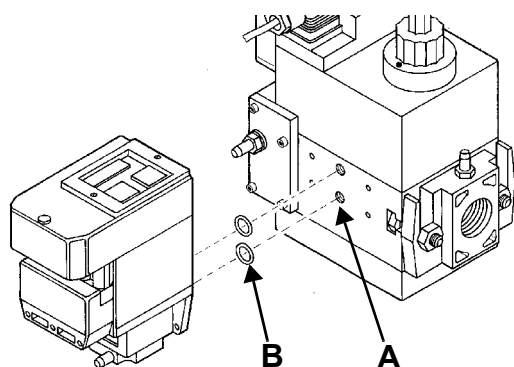
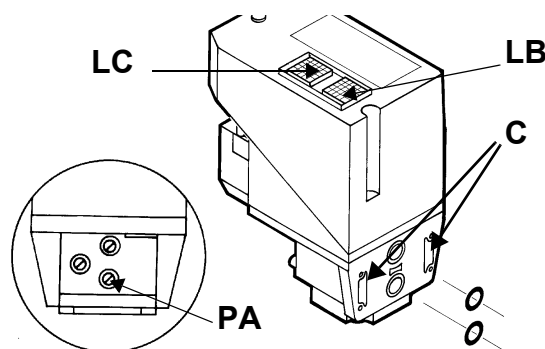

Fig. 22
Fig. 23
- 3 remove the Multibloc screw plugs (Fig. 22-A);
- 4 insert sealing rings (10,5 x 2,25) into VPS 504 (Fig. 22-B - Fig. 23)
5 Torque screws 3, 4, 5, 6 (M4 x16) Fig. 23-C
When wishing to monitor the test, install a pressure gauge ranged to that of the pressure supply point **PA** (Fig. 23). If the test cycle is satisfactory, after a few seconds the consent light **LC** (yellow) comes on. In the opposite case the lockout light **LB** (red) comes on. To restart it is necessary to reset the appliance by pressing the illuminated pushbutton **LB**.